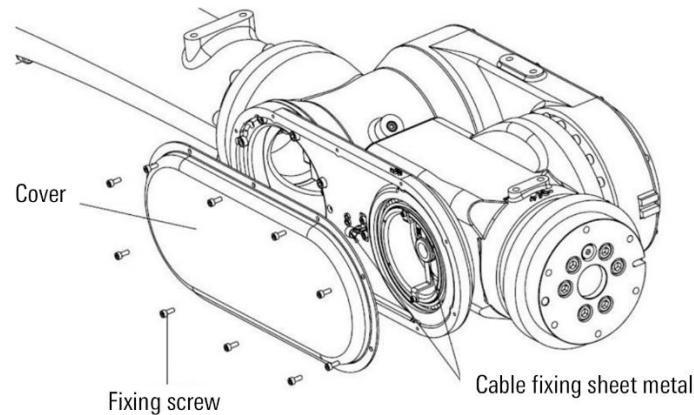
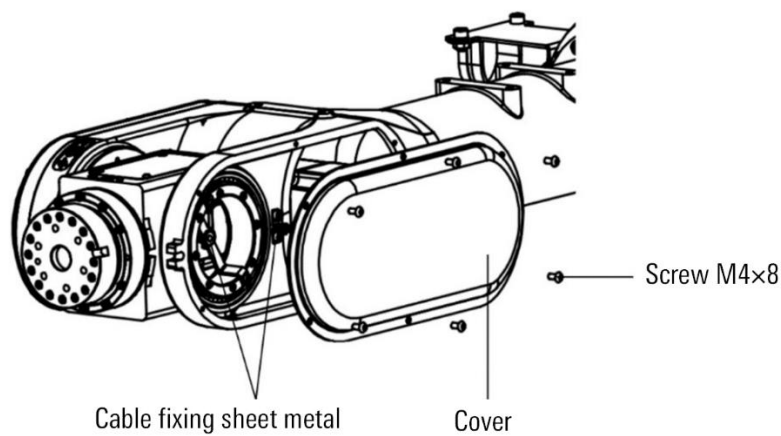

Figure 12-7 AIR50-2260/AIR80-2260/AIR50-2700/AIR80-2560 wrist internal cable
Figure 12-8 AIR35-2700/AIR20-3100 wrist internal cable
- Step1. Remove the cover plate as shown in Figure 12-7 or Figure 12-8.